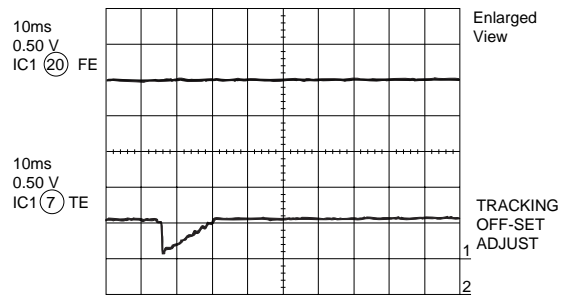

Figure 12-3
2. Tracking offset (Fig. 12-3)